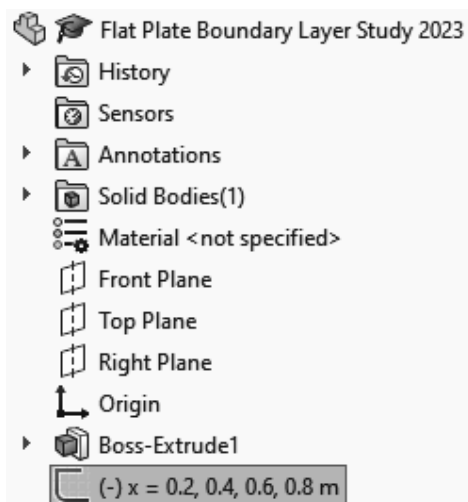

Figure 2.8 Renaming the sketch for boundary layer velocity profiles
8. Repeat steps 6 and 7 three more times and add three more vertical lines to the sketch, the second line at $X = 400$ mm with a length of 40 mm, the third line at $X = 600$ mm with a length of 60 mm and the fourth line at $X = 800$ mm with a length of 80 mm. These lines will be used to plot the boundary layer velocity profiles at different streamwise positions along the flat plate. Close the **Line Properties** dialog ☒ and the **Insert Line** dialog. Save the SOLIDWORKS part with the following name: **Flat Plate Boundary Layer Study 2025**. Rename the newly created sketch in the **FeatureManager design tree**, see figure 2.8. You will need to left click twice to rename the sketch.